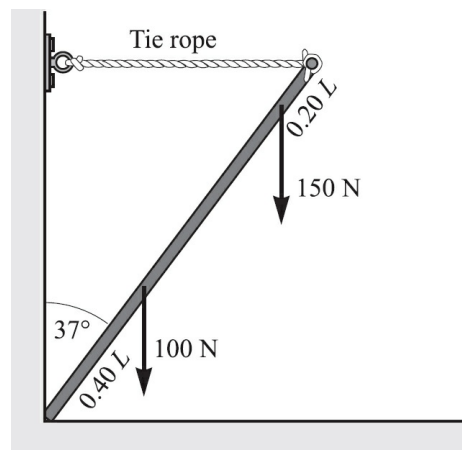

Fig. 5-20
5.30 [III] The foot of a ladder rests against a wall, and its top is held by a horizontal tie rope, as indicated in Fig. 5-20. The ladder weighs 100 N , and its center of gravity is 0.40 of its length from the foot. A 150-N child hangs from a rung that is 0.20 of the length from the top. Determine the tension in the tie rope and the components of the force on the foot of the ladder.